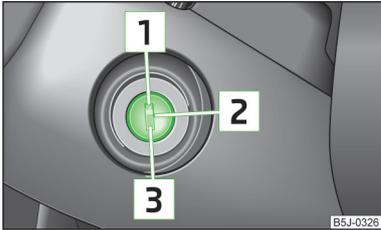

Fig. 102
- When the vehicle is travelling with the engine off, the ignition key must always be in position **2** » Fig. 102 on page 102 (ignition switched on). This position is indicated by the warning lights coming on. If this is not the case, it could result in unexpected locking of the steering wheel – there is the risk of an accident.
- The starter must only be operated when the engine is not running and the vehicle is at a standstill. The starter or engine can be damaged if the starter is activated when the engine is running **3** » Fig. 102 on page 102.
Petrol engines » Fig. 102
Diesel engines » Fig. 102
If the **steering is locked** and the key cannot be turned or can only be turned with difficulty to position **2** » Fig. 102, move the steering wheel back and forth and the steering lock will unlock.
- › Switch on the ignition **2** » Fig. 102 on page 102.
Switch off the engine by turning the ignition key to position **1** » Fig. 102 on page 102.